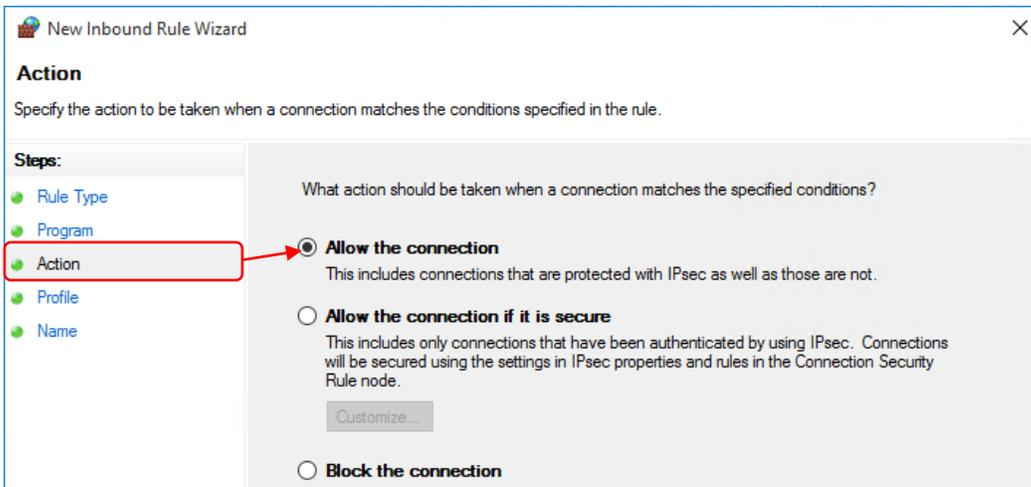

Figure 130: New Inbound Rule Action Page
8. On the **Action** page, select **Allow the connection** (Figure 130).